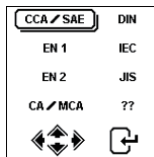

Fig.20
- 9. With the rating selection, the analyser screen will display as per Fig.20 below.